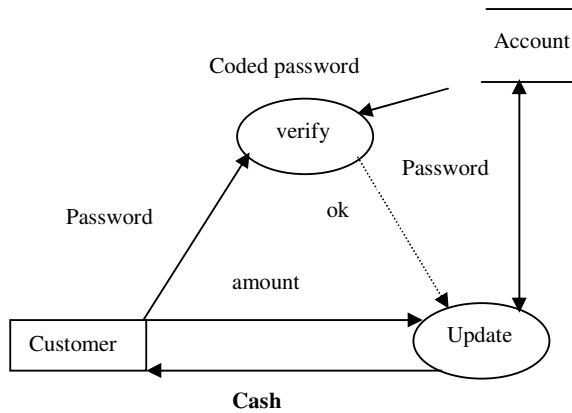

Figure 7: Control flow
*A control flow is a Boolean value that affects whether a process is evaluated.* The control flow is not an input value to the process itself. It is shown by a dotted line from a process producing a Boolean value to the process being controlled. The use of control flow is shown in the *Figure 7*. This figure shows the withdrawal of money from a bank account. The customer enters a password and an account. The withdrawal
We can divide the processes given in DFD into three kinds, which are **handling controls**, **motion computation**, and **display generation**. The control handling processes are adjust controls, which transforms the position of the pilot's controls (such as joysticks) into positions of the airplane control surfaces and engine speed; consume fuel, which computes fuel consumption as a function of engine speed; and compute weight, which computes the weight of the airplane as the sum of the base weight and the weight of the remaining fuel. Process adjust controls is expanded in *Figure 7* where it can be seen as comprising three distinct controls; the elevator, the ailerons, and the throttle. There is no need to expand these processes further, as they can be described by input-output functions easily.